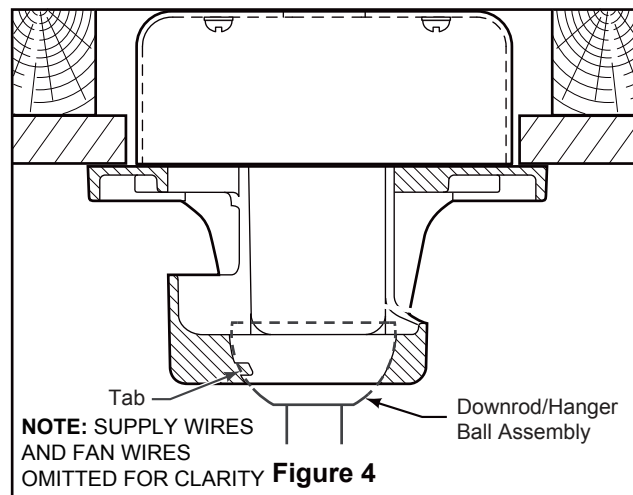

Figure 4
- 4. Slide downrod into the downrod support on top of the motor. Install the clevis pin by aligning the holes in the downrod support with holes in the downrod. Secure clevis pin with hairpin clip. Tighten the two set screws in the downrod support. (Figure 4)
- 3. Carefully lift the fan and seat the downrod/hanger ball assembly onto the hanger bracket that was just attached to the outlet box. Be sure the groove in the ball is lined up with tab on the hanger bracket. (Figure 4)
3. Connect green wires from hanger bracket and motor housing to bare (ground) wire using wire connector. Connect black wire from receiver unit marked “AC IN L” to black supply wire using wire connector. Connect white wire from receiver unit marked “AC IN N” to white supply wire using wire connector. Connect white wire from receiver unit marked “TO MOTOR N” to white wire from fan using wire connector supplied with receiver unit. Connect black wire from receiver unit marked “TO MOTOR L” to black wire from fan using wire connector supplied with receiver unit. Lastly, connect blue wire from receiver unit to the blue fan light wire using wire connector supplied with receiver unit. (Figure 4)